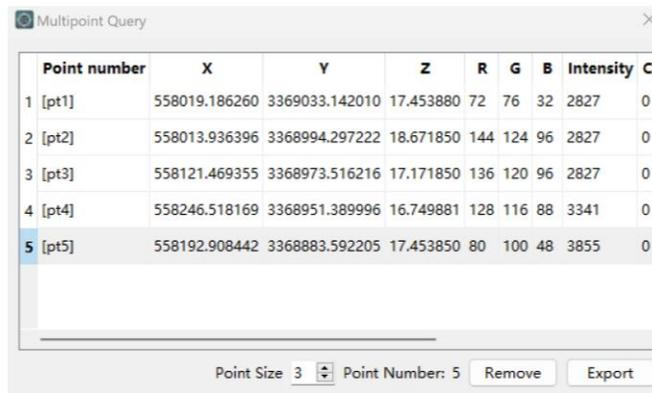

Figure 3-115 Multi-points query pop-up window
- (1) Click menu <Tools> → <Query Multiple Points>.
- (2) A dialog box will be popped up (Figure 3-115), and then click the point cloud that needs to be queried in the point cloud view.